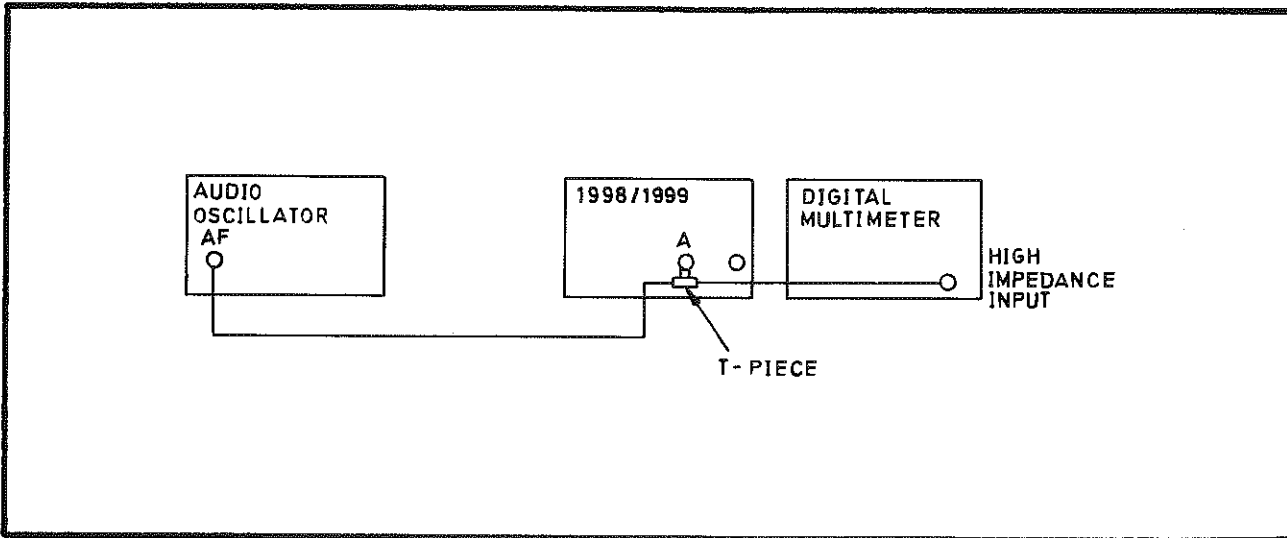

Fig 7.20 Connections for the Channel A Sensitivity PVP
- (1) Connect the test equipment as shown in Fig 7.20.
- (2) Set the audio oscillator output to the frequencies shown in Table 7.6 in turn. Set the 1998/1999 resolution to the corresponding value. Enable the 50 kHz filter.
- (3) At each frequency, determine the minimum input level to the 1998/1999 which gives stable counting. Verify that this is not more than the level shown in the table.
- (4) Disable the 50 kHz filter
- (5) Disconnect the test equipment.